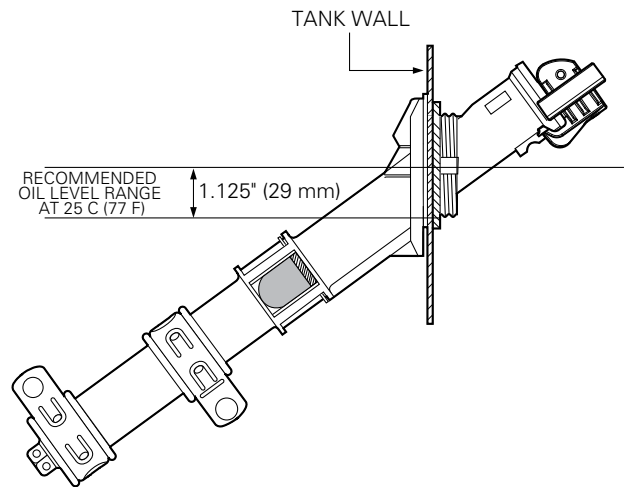

Figure 8. Check fluid level.
- The fluid level in the transformer should be approximately at the base of the protruding plastic threads of the Bay-O-Net housing at 25° C (77° F) with the transformer on a level surface. (See Figure 8.)
- Twist the locking handle so that the latch engages the Bay-O-Net housing's shoulder and the steel washer seats tightly on the end of the tube of the Bay-O-Net holder assembly. (See Figure 8.)